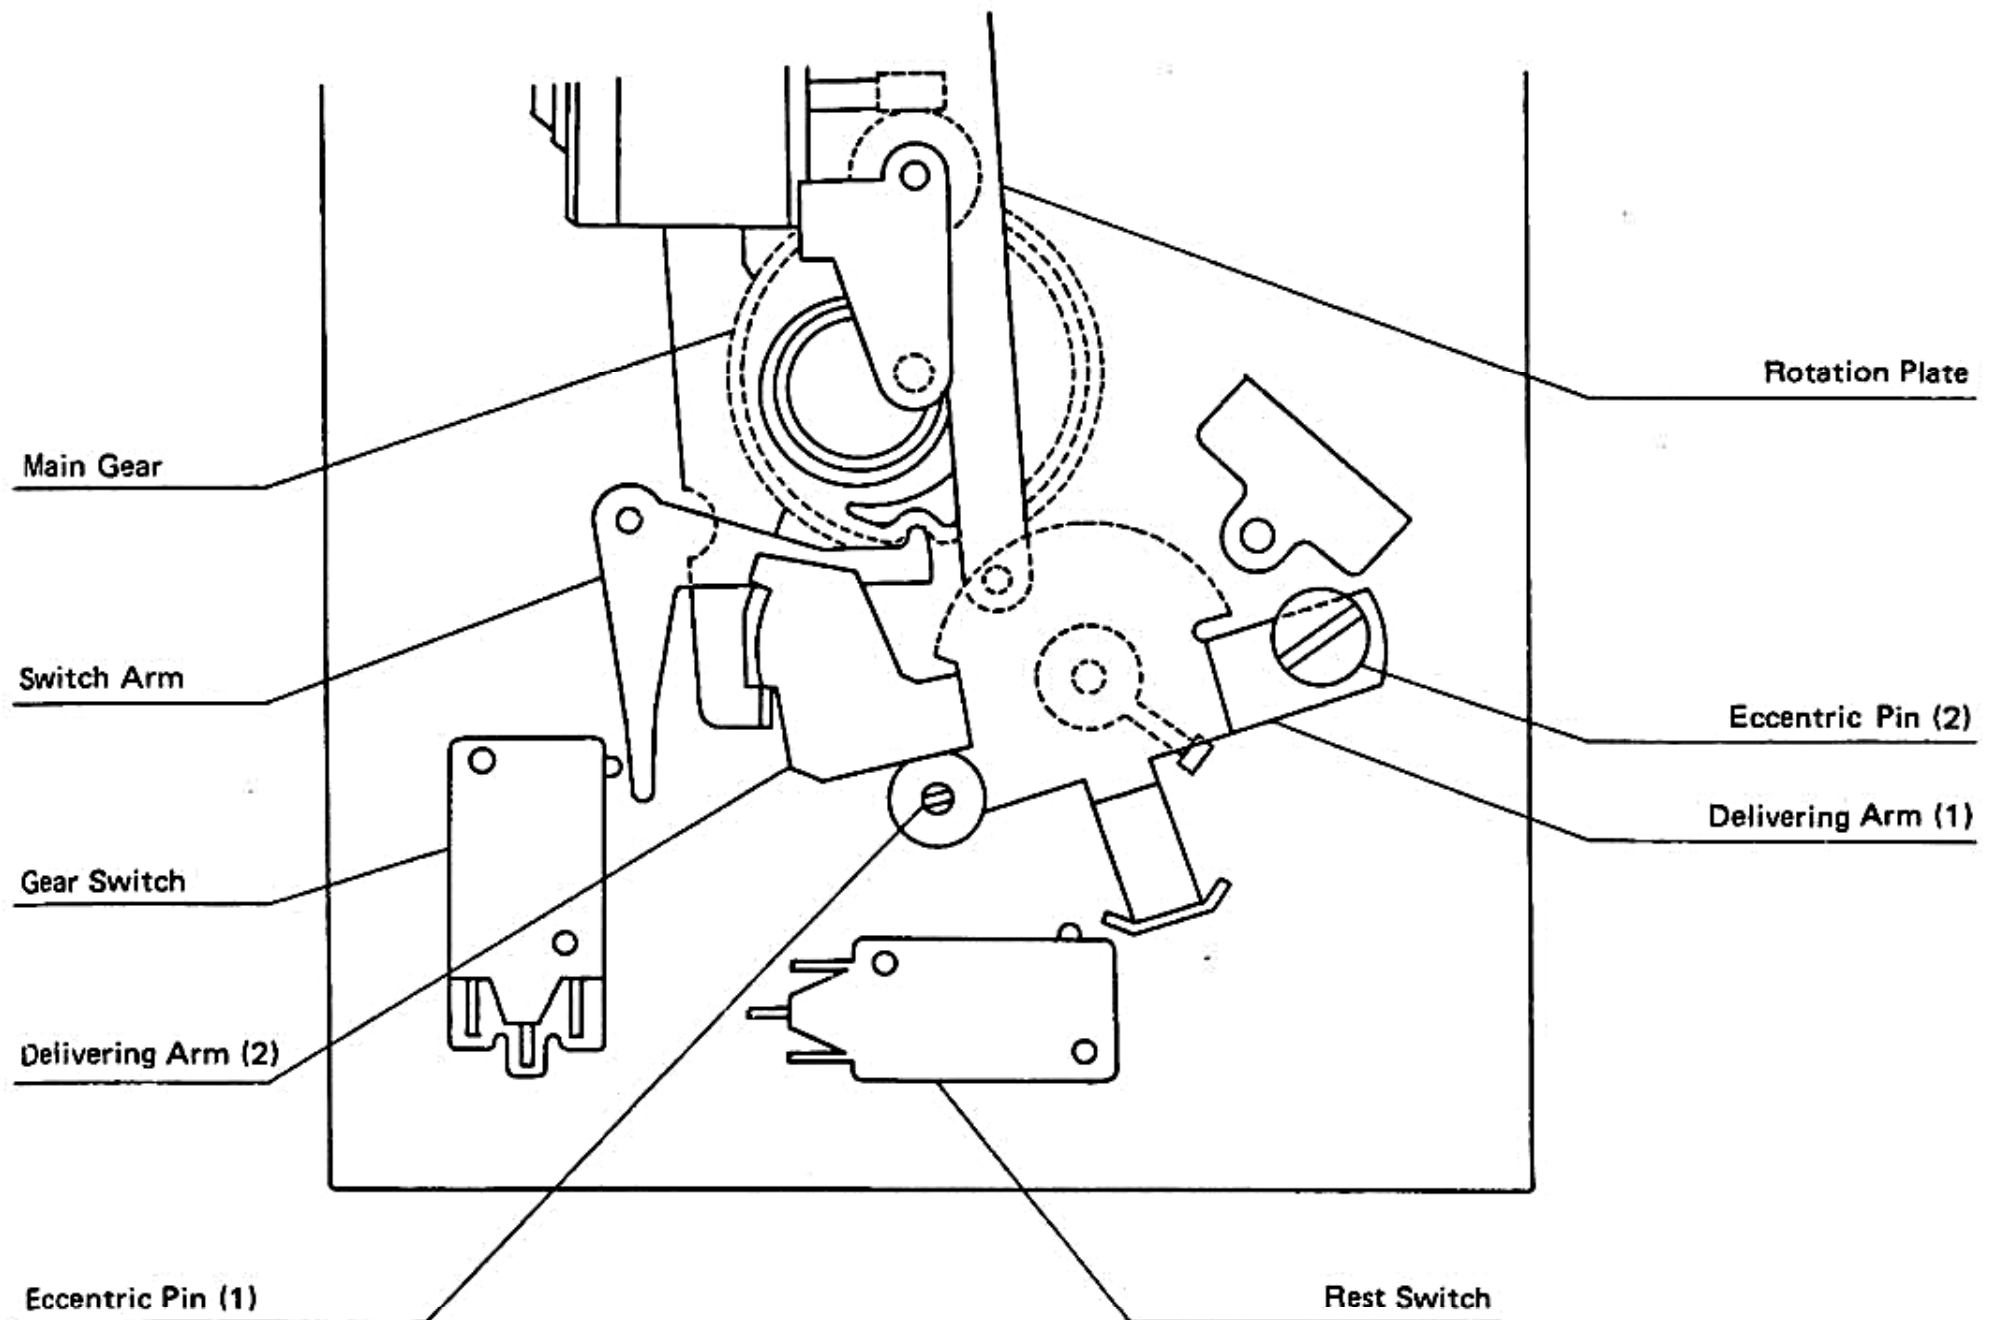

Fig. 1.
(2) Adjustment of lead-in position
Set the mode at AUTO, and push on the PLAY button, then adjust the eccentric pin(1) so that the stylus position can be put in the right position. (Refer to fig. 1.)